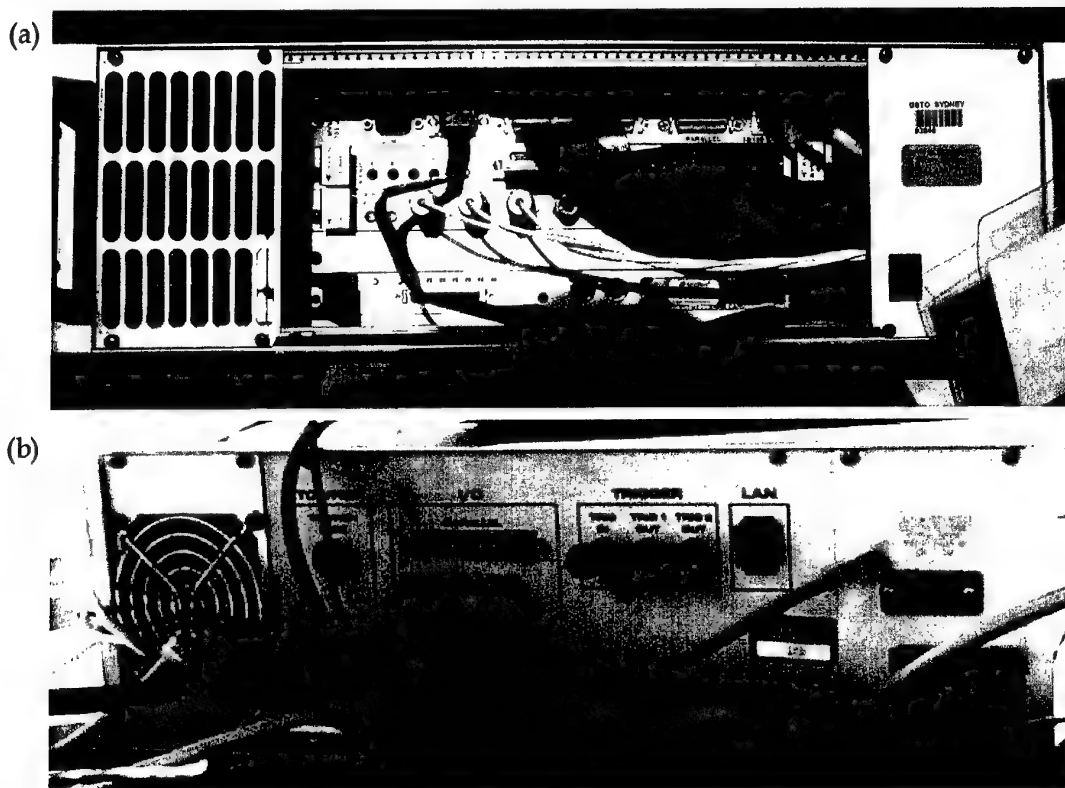

Figure 19 The (a) front view and (b) back view of the Klein 5500 TPU.
The Klein 5500 must be used in conjunction with a sophisticated computer known as the Transceiver and Processing Unit (TPU) (see Figure 19). The TPU has several major functions. These are (1) multiplexing the commands, and sending them, to the sonar, (2) controlling the number of transducers to be used in beam forming, (3) demultiplexing the data coming from the towfish (5) parsing the sonar data through a digital signal processor and (6) data format generation.